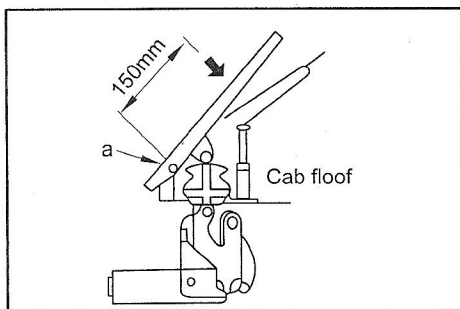

Fig. 05-11
(1) Push the force-gauge I_2 against the pedal at 150mm away from "a" point (Please see Fig.05-11, 05-12).